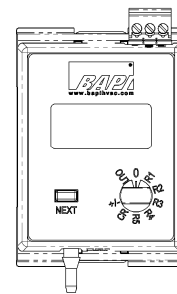

Figure 4: EZ Pressure with mounting tabs pushed in
The EZ Mount Base has mounting tabs that can be extended or pushed in. Figures 4 and 5 show the details.
- If showing, push the blue mounting tabs in as shown in Figure 4.